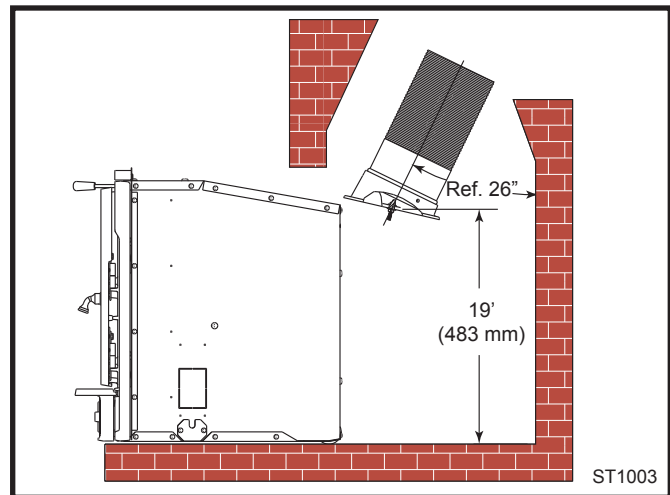

Fig. 7 Measured height from the finished hearth surface to the center bar of the flue collar.
- Install the connector pipe or liner so that the height measured from the finished hearth surface to the center bar of the flue collar is 19" (483 mm). (Fig. 7) This will allow an easy connection once the stove is rolled into place.